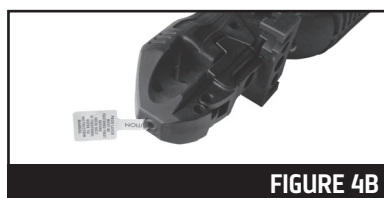

FIGURE 4B
2. Verify the hex nut and socket head screw are pre-installed from the factory. Loosen the socket head cap screw, then read and remove the "CAUTION" tag, as shown in Figure 4B.